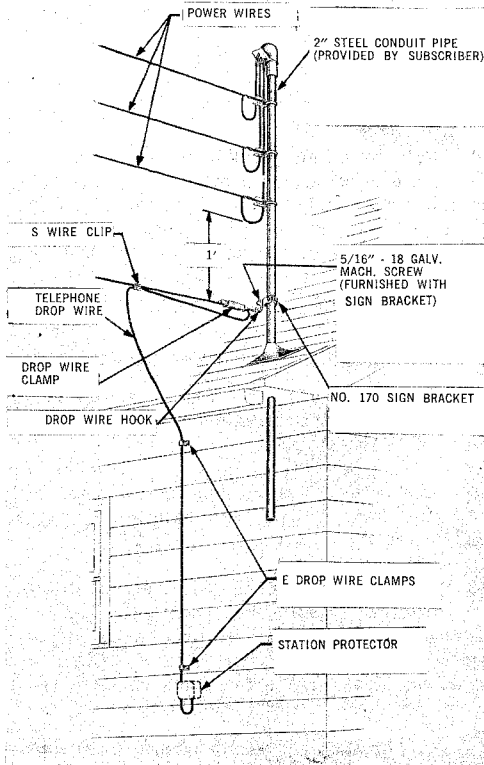

Fig. 10—Drop Wire Attached to Power Fixture
6.01 Figs. 10 through 14 show types of clearance fixtures commonly provided by subscribers and the recommended methods of making drop wire attachment. Where other types of fixtures are provided and different methods of making drop wire attachments are required, local instructions should be issued.